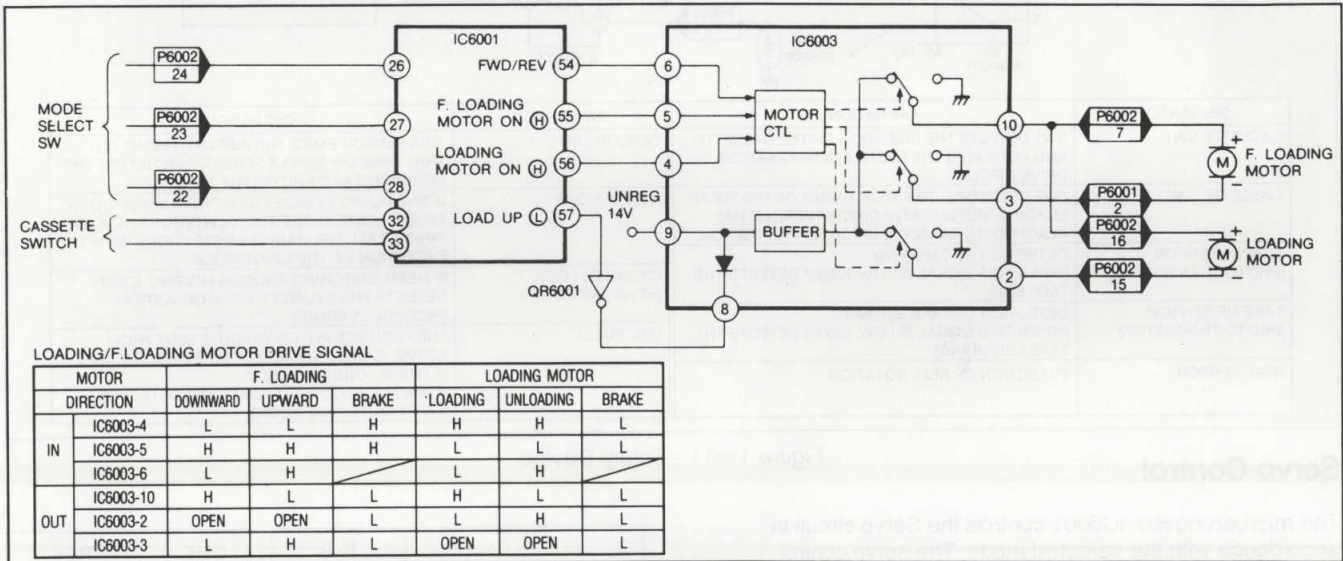

Figure 1-9 Front Loading/Loading Motors Drive
- The loading motor drives the loading posts, tension arm, pressure rollers etc., by means of a Cam Gear movement, in accordance with the mode select switch. Timing of the motor drive signal is shown in Figure 1-9.
The Front Loading motor is controlled by the cassettes switches SW1 and SW2 (See Figure 1-9).